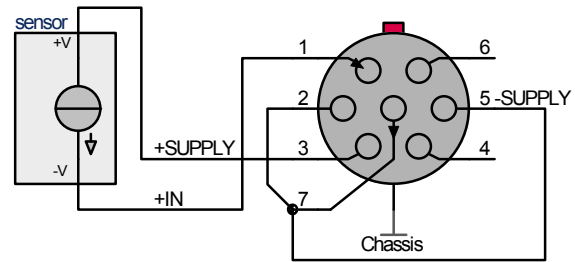

fig.2b
- The sensors with two-wire connection (unipolar supply) are encoders with the classic 0 mA/4 mA ... 20 mA current loop. The signal has only positive polarity. If the current loop requires a supply greater than 15 V (standard), the sensor must be connected to +SUPPLY and -SUPPLY according to fig. 2b. For the setting of the supply voltage of ± 12 V, for example, 24 V are available for the current loop.